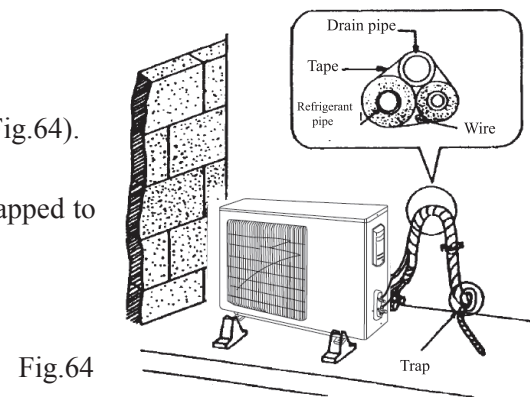

Fig.64
If the outdoor unit is installed higher than the indoor unit (See Fig.64).
- ◆ All pipes are bound and taped together and also should be trapped to prevent water from returning to the room (See Fig.64)